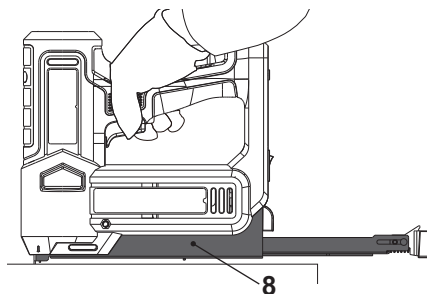

Fig. 13
6. Keep the magazine (8) open and switch the product on, attempting to fire 3-4 times on the soft wooden pad (Fig. 13).
7. Load the magazine (8) with the staple strip (18) and attempt to fire 3-4 times on the soft wooden pad.